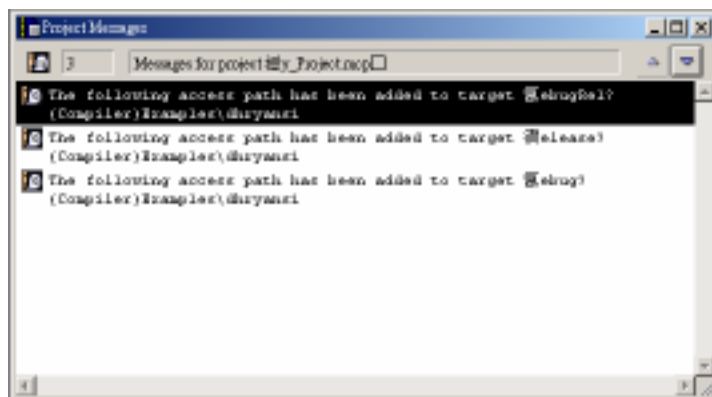

Figure 10. Project Message window.
4. Leave all the build target checkboxes selected and **click OK**. The CodeWarrior IDE adds the source files to each target in the project and displays a Project Messages window (Figure 10) to inform you that the directory containing the source files has been added to the access paths for each build target.